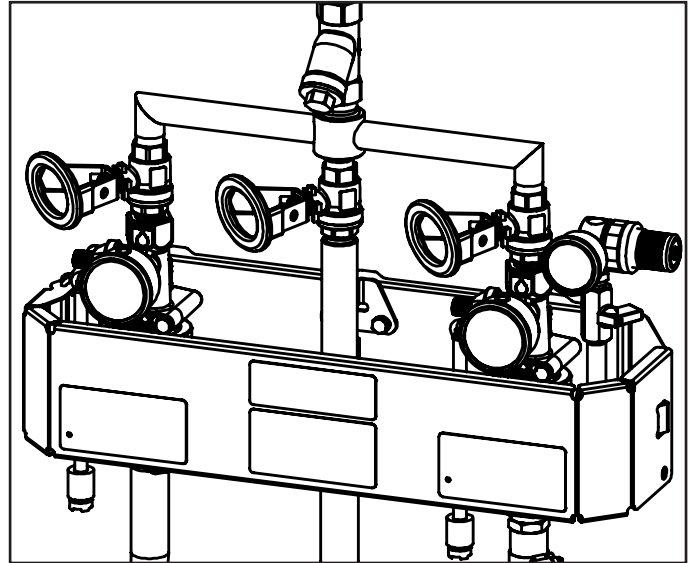

Fig. 7.1: Water and air supply ball valves closed.
1. Ensure systems are properly connected and the water and air supply [foamer only] valves are closed [Fig. 7.1]